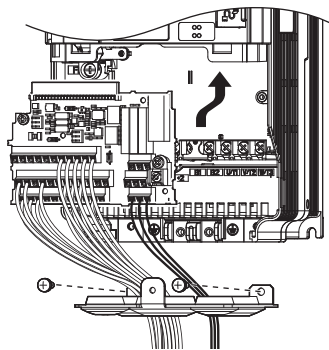

Figure 86 Drive Replacement: Installing the Control Terminal Board
- After wiring the main circuit, connect the terminal block to the drive as shown in Figure 86. Use the installation screw to fasten the terminal block into place.